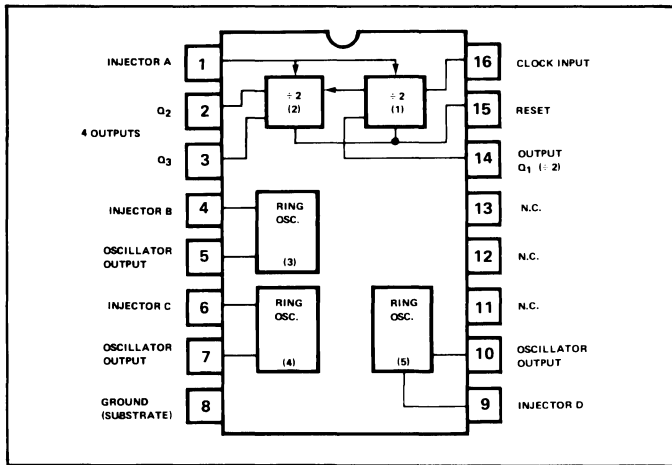
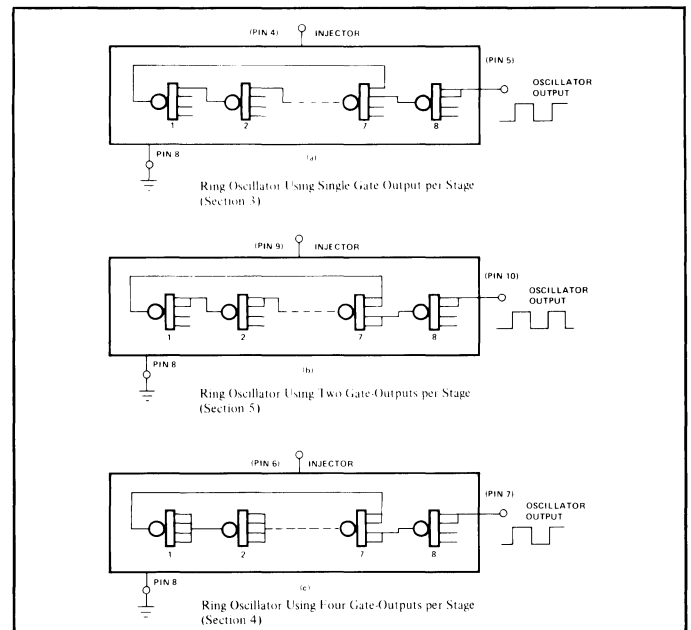

Figure 1: Package Terminals for XR-C409
Figure 4: Equivalent Circuits of the 7-Stage Ring Oscillator Section
The XR-C409 I2L test circuit is comprised of five separate evaluation blocks as shown in Figure 1. Blocks 1 and 2 are D-type flip-flops which are internally connected as frequency dividers. Each of these dividers provides buffered open-collector outputs. Blocks 3, 4, and 5 are 8-stage ring-oscillators with buffered outputs to be used for measuring gate propagation delays at different injector current levels. The XR-C409 evaluation circuit is included as a part of Exar's I2L Design Kit.
Figure 4 shows the basic seven-stage ring-oscillator circuits included on the XR-C409 chip. Since the delay characteristics depend on the choice and the number of gate outputs used, the test IC includes three separate ring oscillator sections. The ring oscillator of Figure 4(a) corresponds to section (3) in the package diagram of XR-C409 shown in Figure 1. This oscillator uses only one gate-output per gate. The output used is the one closest to the injector, with the remaining outputs left open-circuited.
The ring-oscillator of Figure 4(b) uses two gate outputs per stage. The outputs used are the two closest to the injector. The ring oscillator of Figure 4(c) has all four outputs shorted together.